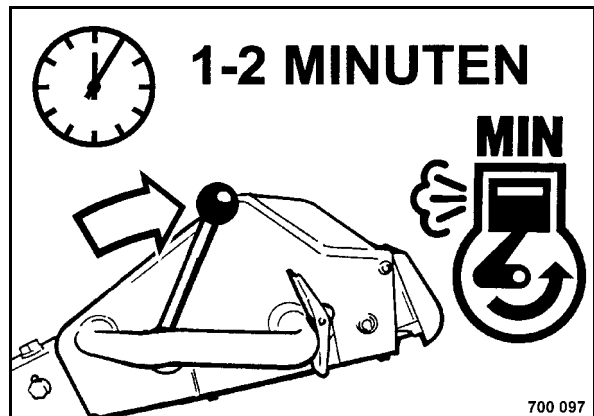

Fig. 21
- After starting take the throttle lever back to position "MIN" (Fig. 21).